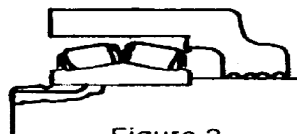

Figure 2
2. Insert shaft in bearing if it cannot be done later. Coat shaft with oil and press inner ring and roller assembly squarely on shaft (Figure 2).